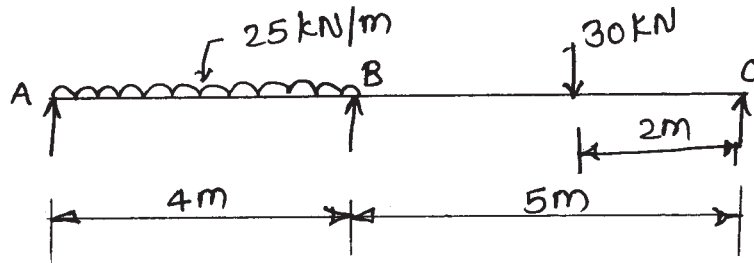

Fig. No. 2
- b) Draw SFD for continuous beam as shown in Figure No. 2. Also calculate B.M. at support 'B'. Use three moments theorem.